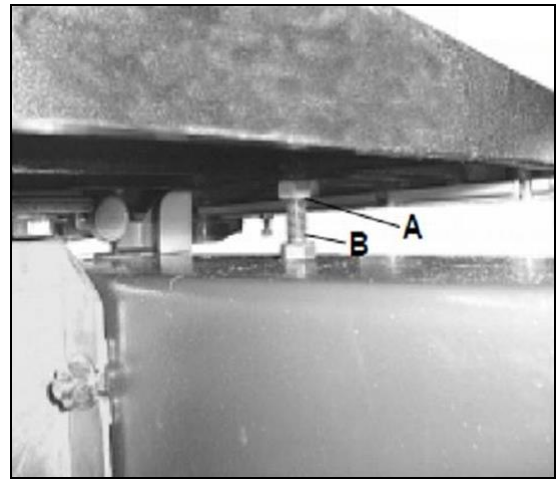

Fig. 13
Refer to Figure 13:
Loosen the nut (A, Fig 13), adjust bolt (B).